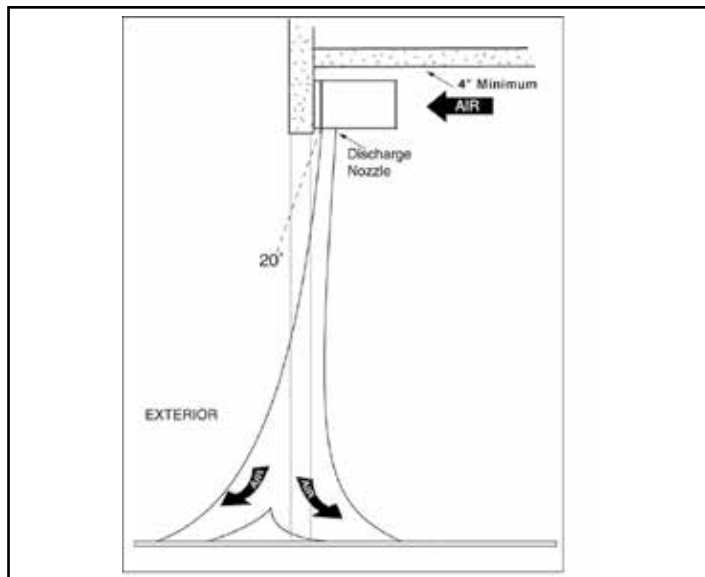

Figure 1
- G. When determining the mounting location for the unit(s), make sure that nothing interferes with the curtain of air developed when the discharge vanes are directed from 0° to 20° toward the door opening. For mounting the unit(s) in a limited access or enclosed installation, consideration must be given for the maintenance of the unit. If the air stream strikes any obstruction (the top edge of the doorway, a door opening device, etc.), the effectiveness of the unit will be greatly reduced. **See Figure 1.**